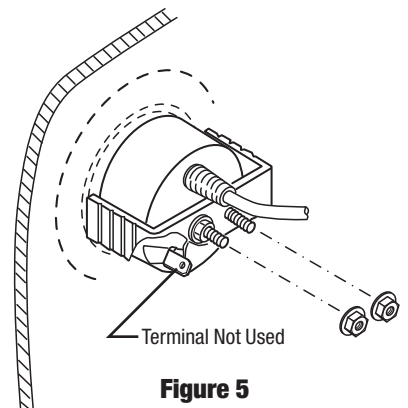

Figure 5
3. Secure remote control to mounting surface using supplied bracket and nuts (Figure 5).